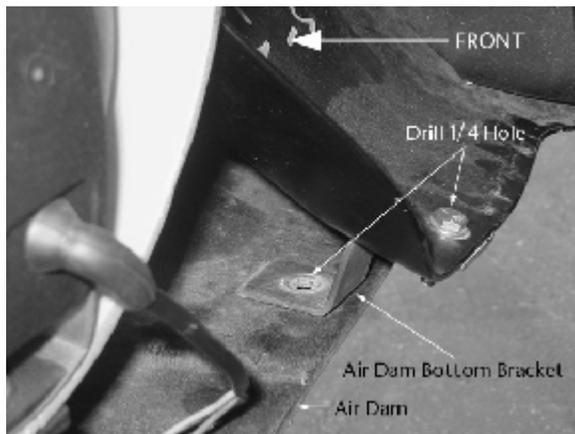

Fig 7
3. Locate spot for lower support bracket and drill 1/4 mounting hole in lower bumper skid plate on both sides. Attach brackets as shown in Fig 7 (two brackets total, one per side)
4. POSITION the Air Dam in its correct position and locate under lower support bracket. Drill Air Dam and attach with supplied hardware to bracket as shown in Fig 7